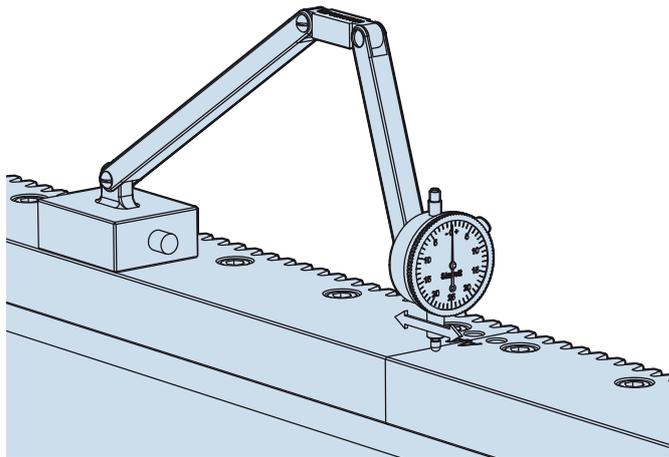

Figure 4
10. Check the continuity of the joint using a suitable measuring device, as shown in Figure 4: When correctly installed there should be a step of no more than  $20\mu\text{m}$  between any two faces either side of the joint.